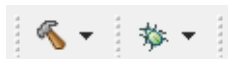

Figure 18: *Code Composer Studio* build and debug buttons
5. Build the project in *Code Composer Studio* by clicking **Project** → **Build all** or by clicking on the **Hammer** symbol as seen in Figure 18 at the top of the screen. Check for errors while building in the console at the bottom of the screen.
6. If your target is connected to the computer click **Run** → **Debug** or click on the *Bug* symbol as seen in Figure 18 at the top. The program is now transferred to the target and can be started with the **green arrow** button at the top.